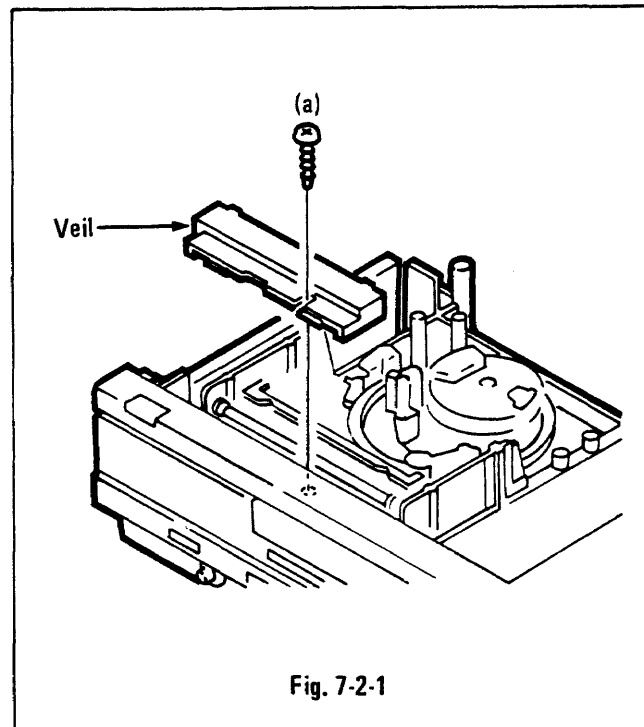

Fig. 7-2-1
2. REMOVAL OF THE VEIL (See Fig. 7-2-1.)